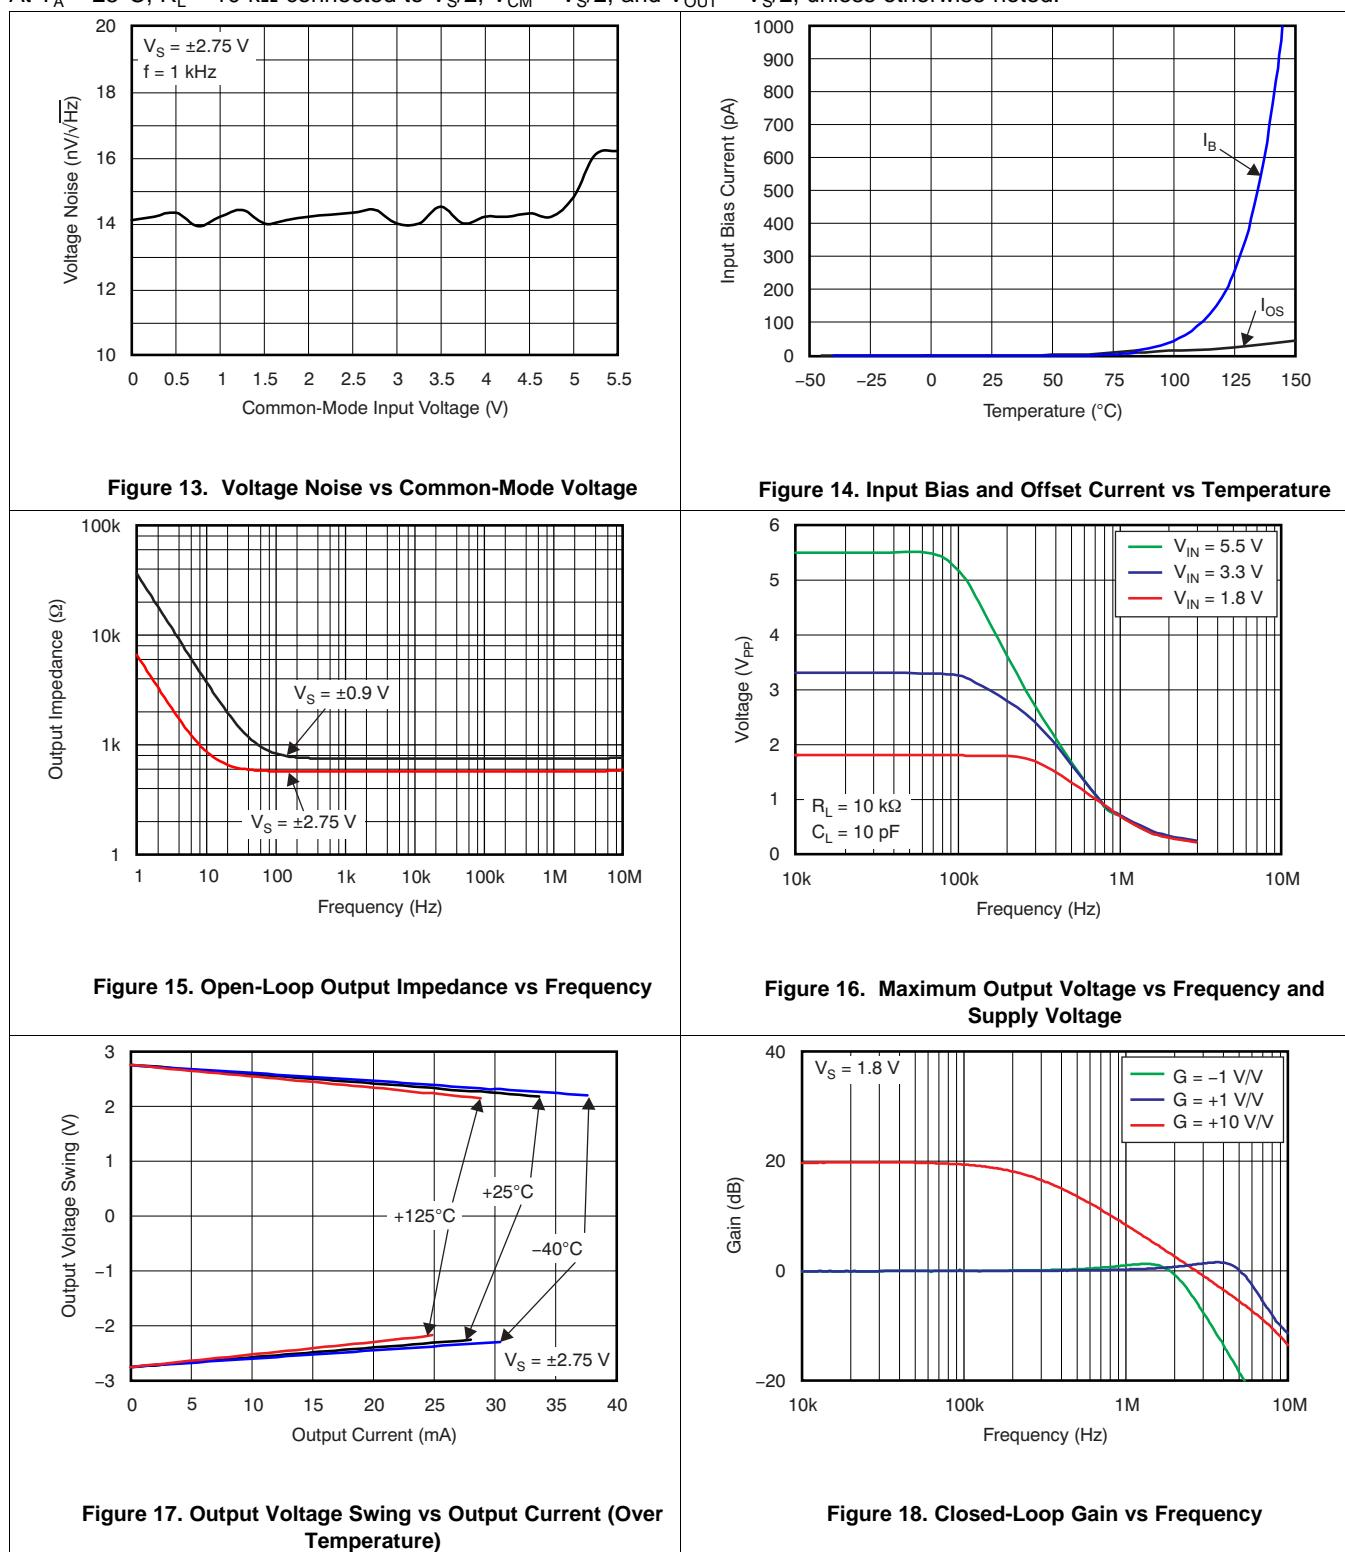

**Figure 11. 0.1-Hz to 10-Hz Input Voltage Noise**
0.1-Hz to 10-Hz Input Voltage Noise (5.5 V)	<a href="#">Figure 11</a>